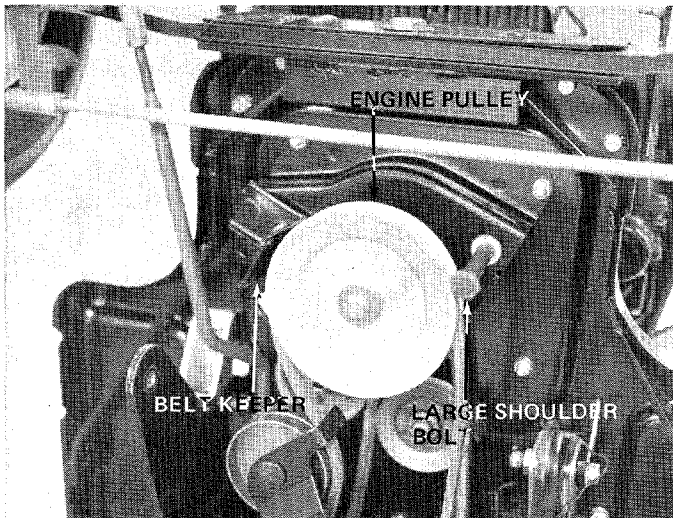

FIGURE 20
20. Replace the engine pulley belt keeper and large shoulder bolt. See figure 20.